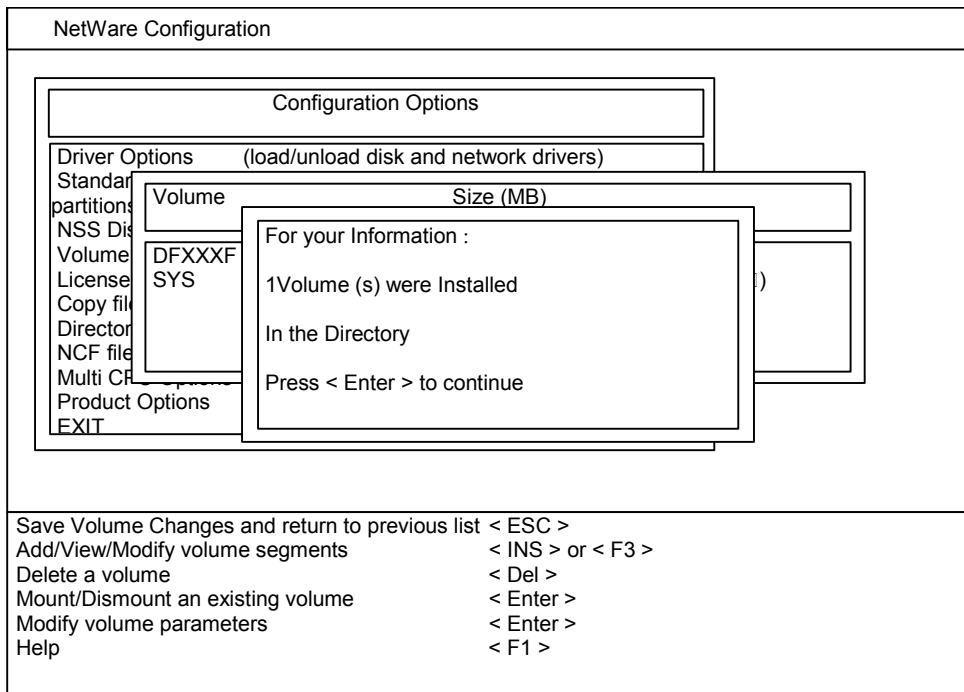

Figure 3.16 Confirming the New Volume Message
After you have assigned the new 9500V devices to volumes, you are ready to mount the new volumes to verify that the NetWare® system can access the new devices. Figures 3.16 through 3.20 show the sequence of screens displayed on the NetWare® server during the volume mounting process. You should mount all new volumes.
3. An informational message displays the number of new volumes just added (see Figure 3.16). Press **Enter** to confirm this message.